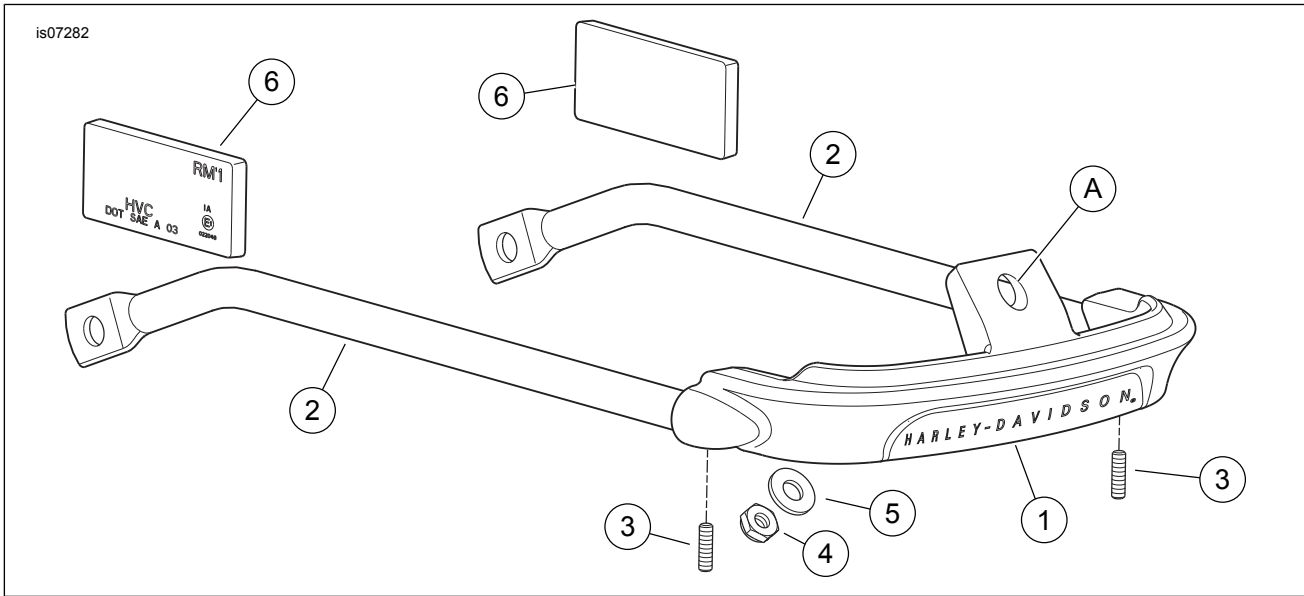

Figure 2. Service Parts, Air Wing Front Fender Rail Kit
See Figure 2 and Table 1.
5. See Figure 2. Place the **new** fender rail assembly into position, aligning the slotted hole (A) in the front tip (1) with the weld stud in the front of the fender.
6. Apply a few drops of Loctite 271 - Red to the **clean** original equipment (OE) bolt threads.